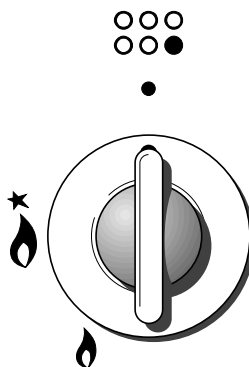

Fig. 5
Each hob burner is controlled by a separate gas tap operated by a control knob (fig. 5) which has 3 positions marked on the control panel, these are:
- 1) Lightly press and turn the knob anti-clockwise, and position the knob indicator to the symbol  printed on the control panel (fig. 5).